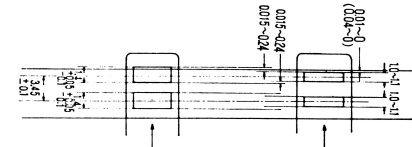

Fig. 12
- Form a loop at the end of No. 3 Tape by sticking tape end with adhesive tape and place the reel on take-up reel holder as shown Fig. 12.
(Adjust with Friction Spring as shown Fig. 12)
### Winding Torque for Fast Forward (Fig. 12)